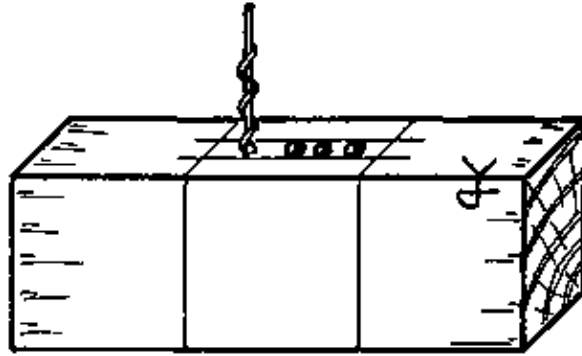

Fig. 6
– Most of the waste may be bored out (Fig. 6). Bore halfway through from both edges. Make sure you keep the brace at a 90 degree angle to the edge.